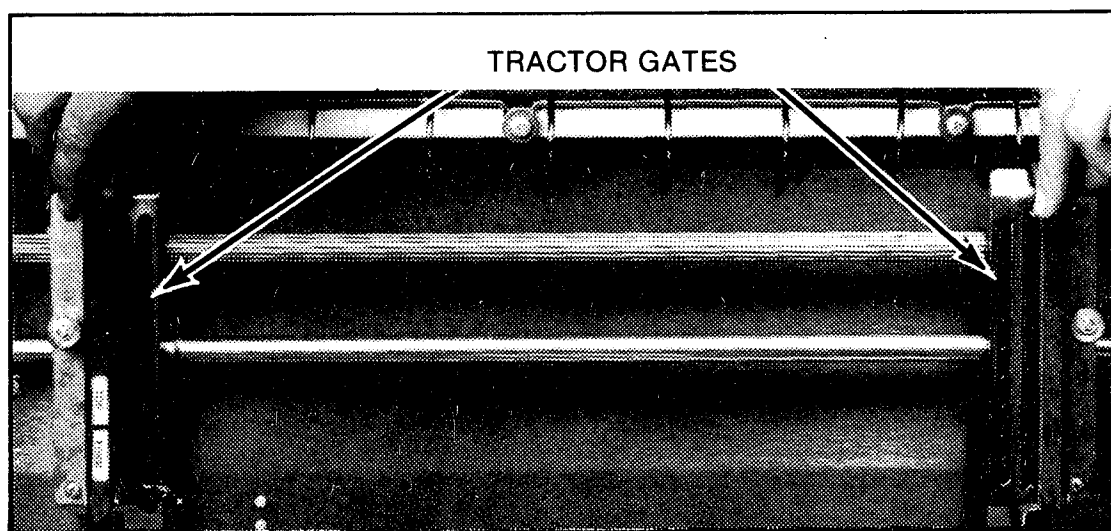

Figure 3. Tractor Gates
- Open left and right tractor gates (Figure 3), and remove any remaining paper.